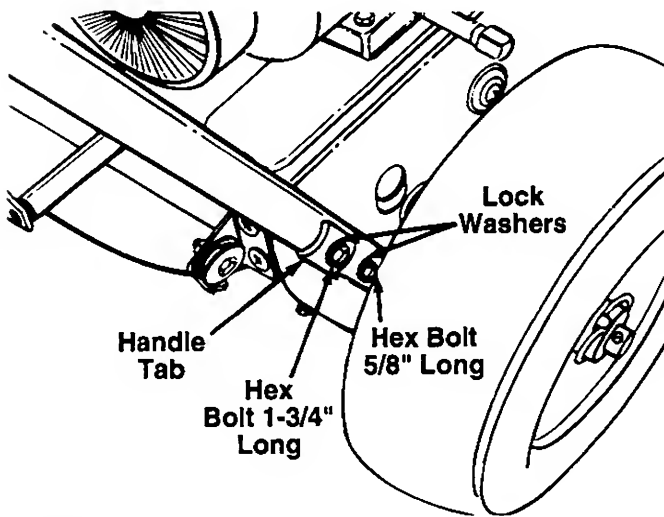

FIGURE 1.
1. Place right handle in position against the snow thrower so the flat side of the handle is against the snow thrower. Secure bottom hole in handle to snow thrower using hex bolt 5/8" long and lock washer. See figure 1. Do not tighten at this time.